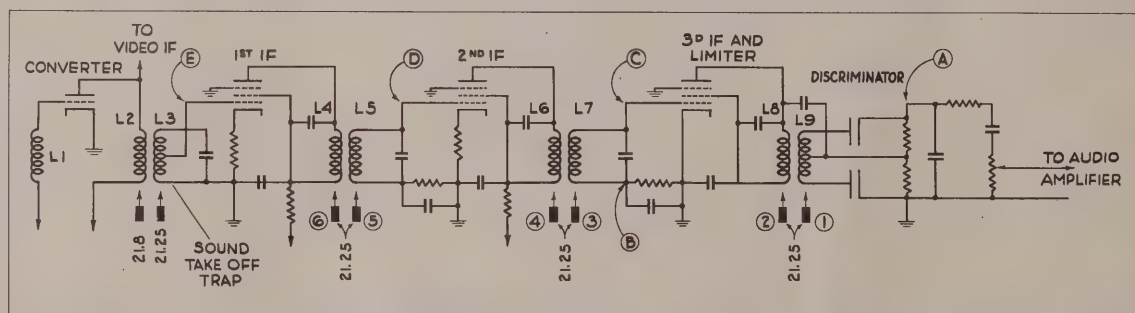
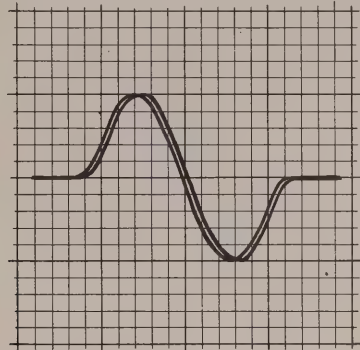
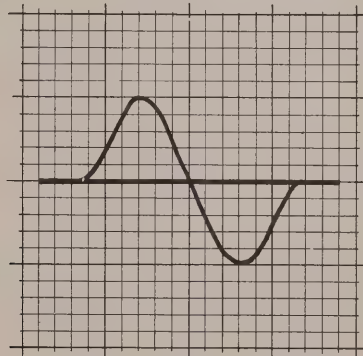
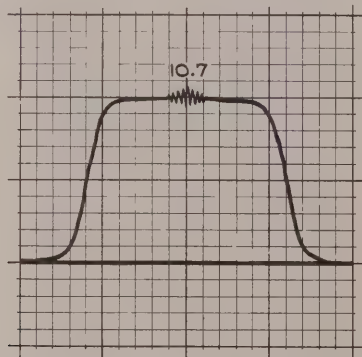

FIG. 8 TYPICAL TV SOUND IF SYSTEM
FIG. 9 DISCRIMINATOR RESPONSE - IN PHASE - BLANKING OFF
FIG. 10 DISCRIMINATOR RESPONSE - BLANKING ADJUSTED
FIG. 12 SOUND IF RESPONSE
Fig. 8 is the schematic of a typical sound IF system composed of 3 IF stages and a discriminator. The 3rd IF tube serves as a limiter to reduce the effects of amplitude modulation.
1. Connect the Model 479 OUTPUT cable between point C Fig. 8 and ground using SERIES COND. termination. (See Table 2)
6. Advancing the FM Sweep will shorten the response curve and reducing it will lengthen the curve. The FM Sweep should be adjusted until the response curve covers most of the horizontal trace. See Fig. 9. (Changing the FM Sweep will require re-setting the Phasing.) Re-adjust the center frequency pointer slightly if necessary to position the response curve in the center of the horizontal trace. Adjust the BLANKING control until a single curve appears with a base line through it. See Fig. 10.
10. Adjust the Discriminator Secondary (L9 Fig. 8) to the point where the 400 cycle pattern disappears then reappears if the adjustment is continued in the same direction. It is important to make this adjustment to the EXACT NULL point keeping the SIGNAL ATTENUATOR at the lowest possible setting in order to avoid the broad response resulting from high signal amplitude.
11. Adjust the Primary of the Discriminator (L8 Fig. 8) for a symmetrical pattern of maximum amplitude having equal deflection above and below the base line such as that shown in Fig. 10. Reduce the FM ATTENUATOR setting as the height of the curve increases. If the Primary requires considerable adjustment the Secondary adjustment should be re-checked.
12. When the Discriminator alignment has produced a symmetrical S curve of maximum amplitude and the 400 cycle pattern reduced to exact null, connect the Signal Input cable between point B (Fig. 8) and ground. An isolating resistor of between 25,000 ohms and 50,000 ohms should be used between point B and the Signal Input cable.
14. Rotate the SIGNAL SELECTOR to UNMOD. RF. and adjust the FM ATTENUATOR and SIGNAL ATTENUATOR to obtain an IF response curve similar to that of Fig. 12. This curve may be considerably distorted if L6 and L7 are not in proper adjustment.
15. Adjust L7 and L6 Fig. 8 for a symmetrical response curve of maximum height such as that of Fig. 12 with a marker pip appearing at the center. Keep the FM Attenuator low as possible to avoid overloading and keep the Signal Attenuator low as possible to avoid distortion of the response curve at the marker point.
1. With the Output Cable connected to the antenna terminals of the receiver and the FM Generator turned off, connect the Signal Input cable across the Sound Discriminator output (point A Fig. 8).
1. Connect the Signal Input cable across the grid leak of the last IF amplifier tube. Point B Fig. 8.